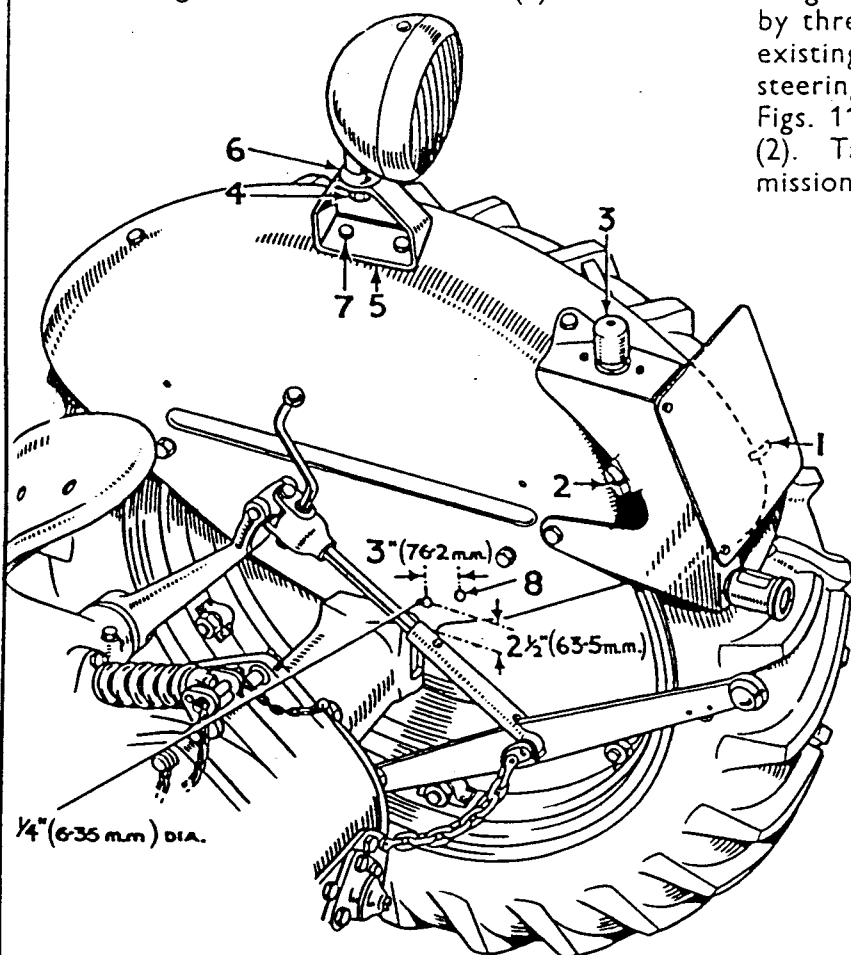

FIG. 10.
in Fig. 10), or 16 clips when wired for right-hand rule of road. The extra clips are provided to make the kit interchangeable throughout the tractor range. The clips to be used when making
Drill out existing rivet on fender and temporarily fit bracket in position using nut and bolt (7) as shown in Fig. 10. Mark the centre of the other hole in bracket on the fender, remove bracket and drill second hole using same size drill. See that bracket is fitted so that hole to be drilled is to the rear of the tractor.
Drill one  $\frac{1}{4}$ " (6.35 mm.) diameter hole in fender as shown in Fig. 10. This hole to be
See Fig. 10.
—See Fig. 10.
fender by means of clip "A4" and 2 BA bolt with spring washer and nut through the previously drilled hole (8), see Fig. 10.